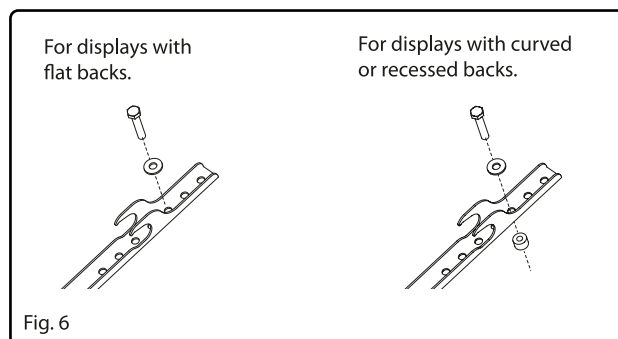

Fig. 6
- B. If the back of your display is curved, has a protrusion, or if the mounting holes are recessed, you will need to use the longer screws (E, G or I) and may also need to use the spacers (K).
3. Attach the mount arms to the back of your display using the screws identified in steps 1 and 2 (see Fig. 6):
- A. If you are using the M4 or M6 screws you will also need to use the M6 washers (J). M8 screws do not require washers.
- B. If you are using the longer screws on a display with a curved or recessed back, you may also need to use the spacers (K). Use one spacer or two spacers stacked as needed. Only use a spacer if necessary.